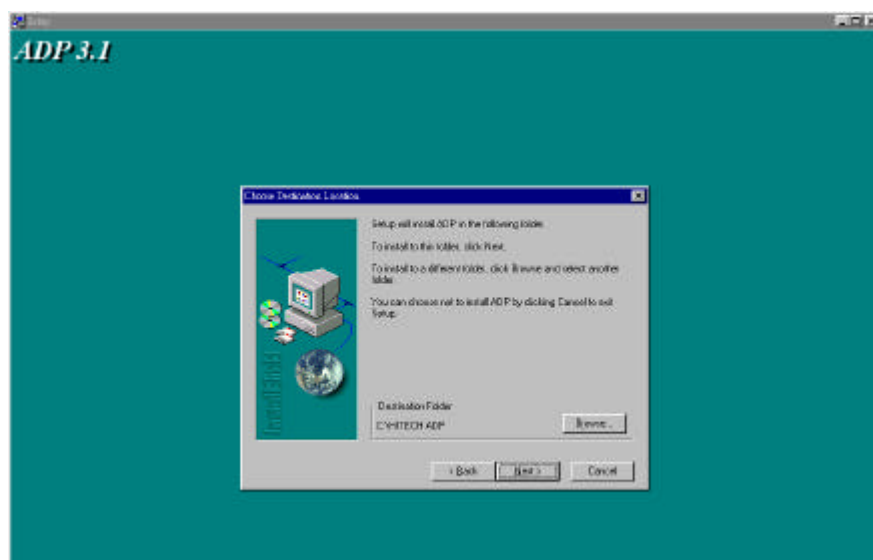

Fig 1-3 Destination hard drive and directory for ADP installation
4. First, a message is displayed in the center of the screen, asking user to confirm the destination hard drive and directory for ADP installation (See Fig 1-3). The default directory is C:\HITECH ADP. You may change hard drive and directory at this point by clicking on “Browse...” button.